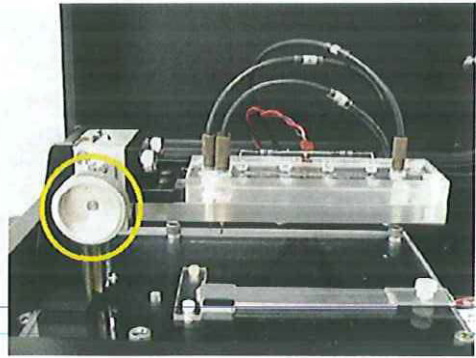

Figure 2 - 5
7. Carefully fasten the microscope to the vertical stage and secure with the bolts. (Figure 2 - 6) This is most easily done by inserting the microscope assembly diagonally and then twisting to the vertical. Care must be taken during this operation to not damage the objective lens.